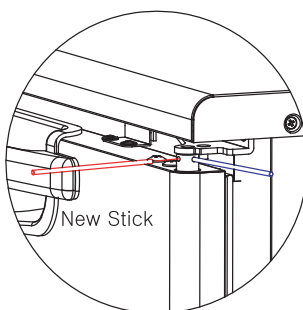

Fig 9-33
5. If tension is still present even after completing steps 1 through 4, repeat the procedure by using the steel stick. (Fig 9-33)